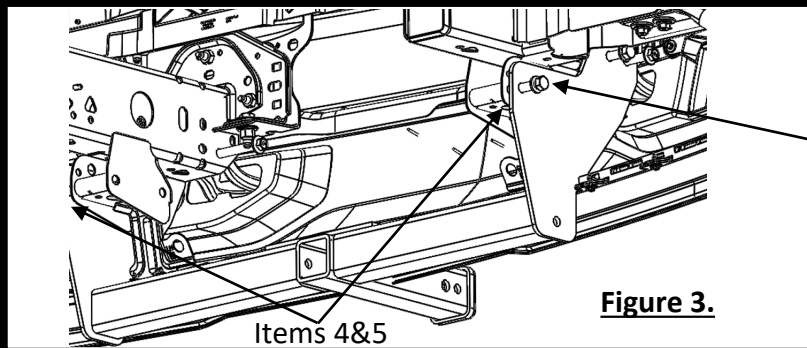

Figure 3.
- 3. Loosely install hitch** – Slide the hitch into position outside frame rails. **See Figure 3.** Temporarily secure the hitch by first using the supplied M12 bolts and washers (item 1 and item 3) and the front driver side tow hook flange bolt. Washers should go between the bolt head and frame rail, and the nut and frame rail. Hand tighten the M12 hex nuts (item 2) and front driver side tow hook flange nut. Install the (2) passenger side tow hook flange bolts and flange nut. Make sure the passenger side flange bolts also engage the tow hook. **See Figure 2.**
- 4. Install spacer blocks**– With all the tow hook fasteners supporting the hitch, starting with the driver side remove the supplied M12 bolts (Items 1 and 3) from the frame. Slide in blocks ((1) item 4 and (1) item 5). Then reinstall the M12 bolts, washers, and nuts (items 1, 2, and 3). Repeat for passenger side. **See figure 3.**
3. **Loosely install hitch** – Slide the hitch into position outside frame rails. **See Figure 3.** Secure the hitch by first using the supplied M12 bolts and washers (item 1 and item 3) and the front driver side tow hook flange bolt. Hand tighten the M12 hex nuts (item 2) and front driver side tow hook flange nut. Install the 2 passenger side tow hook flange bolts and flange nut.